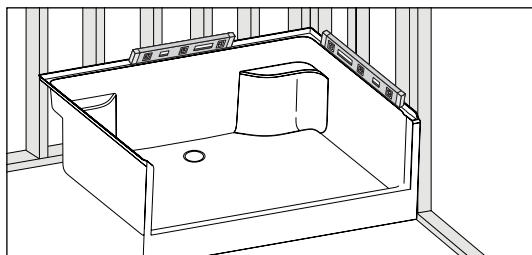

FIGURE 2. Check to assure base is level.
- Trial fit base in prepared alcove. With base sitting flat on floor ensure base is level (Fig 2).